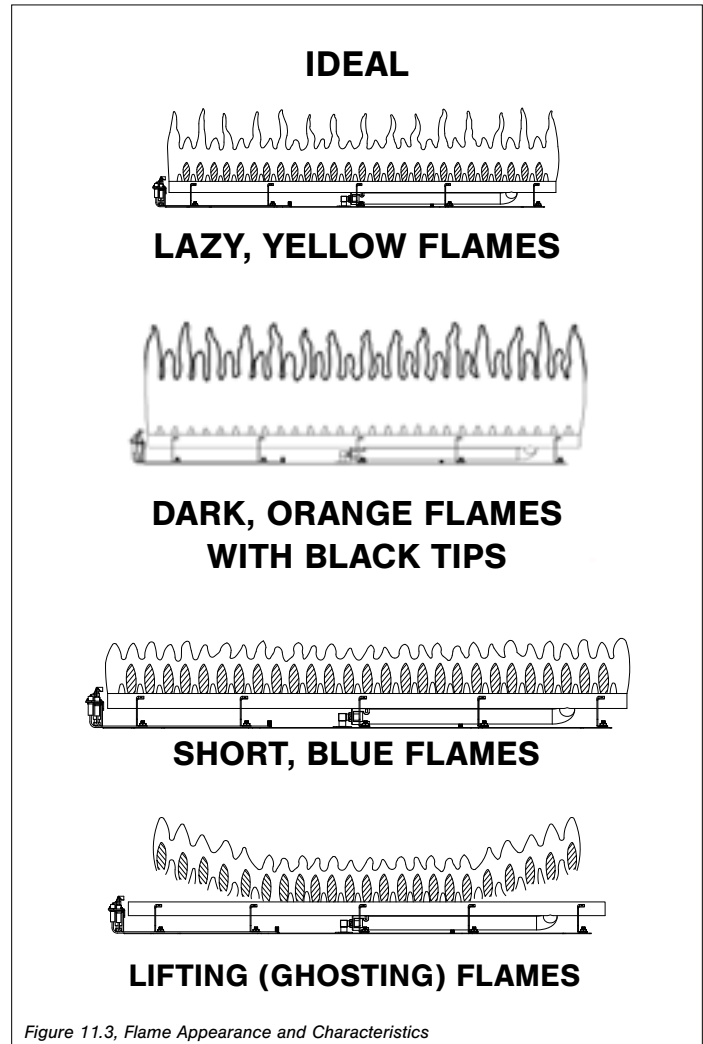

Figure 11.3, Flame Appearance and Characteristics
- Visually check pilot light and burner flame pattern when in operation. Flames should be steady, not lifting or floating. Refer to Section Figure 11.3, Flame Appearance and Characteristics on page 37.